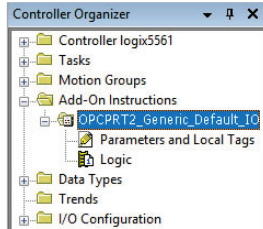

Figure 58: Generic Default IO Add-On Instruction
- 2) Right click on "Add-On Instructions" in the controller organizer view and select "Import Add-On Instruction". Browse and import the generic default I/O add-on instruction. Refer to Figure 58.